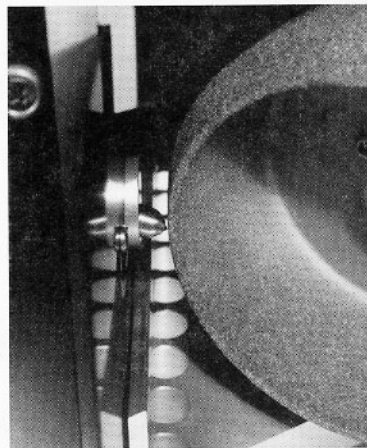
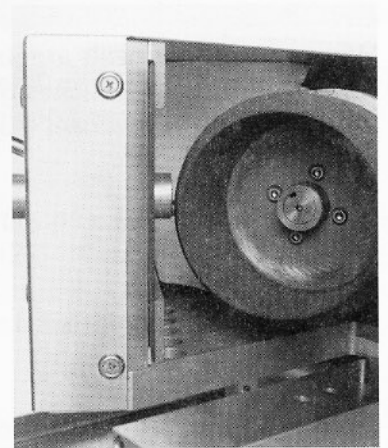
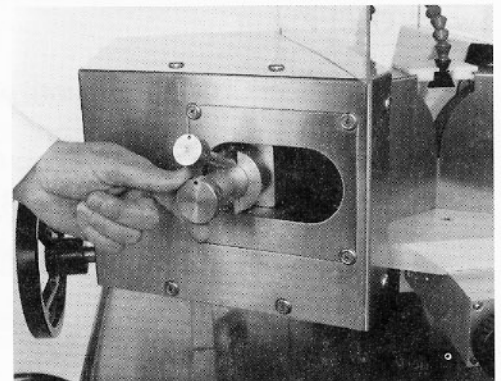

Fig. 8
Fig. 9
Fig. 10
1. Before dressing the Grinding Wheels, visually inspect the end of each Diamond Dresser Bit to be sure it is clear of the grinding wheel and in good condition (see figure 8). If the Dresser Ram Assembly is turned in too far clockwise and the end of the Diamond Dresser Bit does not clear the grinding wheel (see fig. 9), turn the Dresser Advancement Knob COUNTERCLOCKWISE (see fig. 10) until the end of the Diamond Dresser Bit is clear of grinding wheel (see fig. 8).